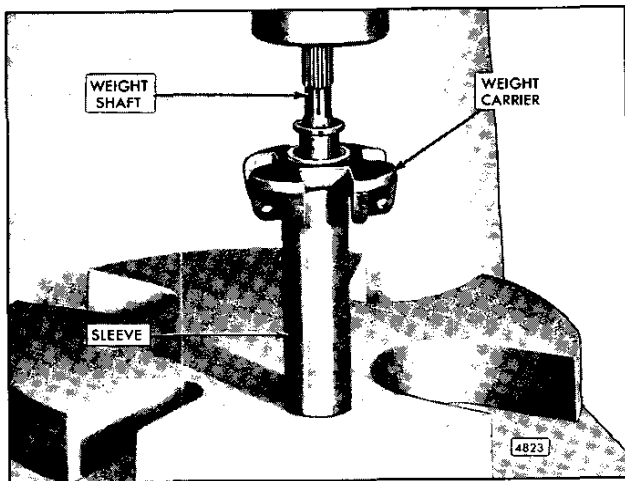

Fig. 13 – Installing Governor Weight Shaft in Weight Carrier
- a. Support the weight carrier, rear face up, on a sleeve on the bed of an arbor press as shown in Fig. 13.